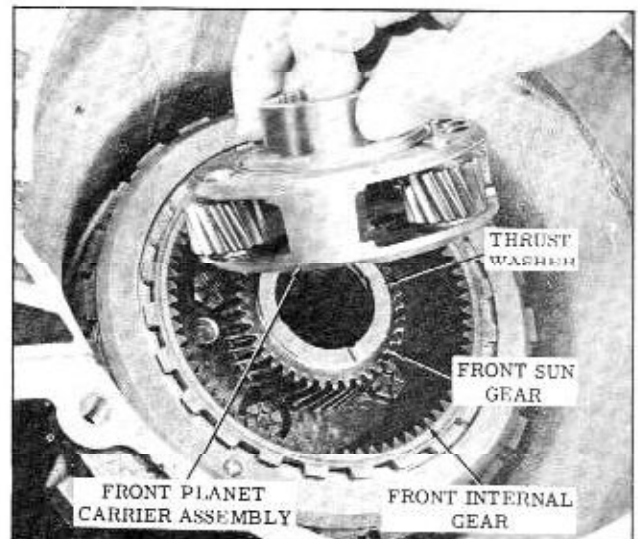

Fig. 3-49 Removing Front Unit Sun Gear
47. Remove the front planet carrier assembly, bronze thrust washer, and front unit sun gear. (Fig. 3-49)